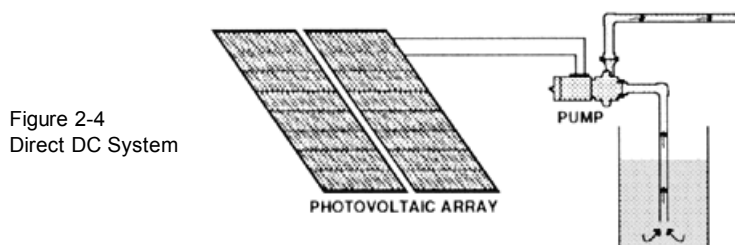

Figure 2-4
**2.2.1 Direct (Direct Coupled) DC System.** The simplest photovoltaic system is made up of an array connected directly to a load. If the array includes more than one module, bypass diodes are used (Figure 2-4).